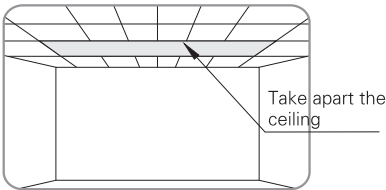
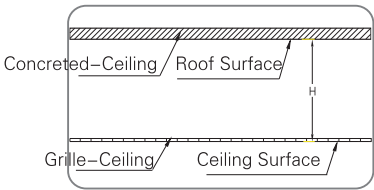

figure 1
figure 2
- 1. Choose a position according to the required space, and then take apart the ceiling (figure 1). Please measure the distance H between roof and ceiling surface correctly (figure 2)